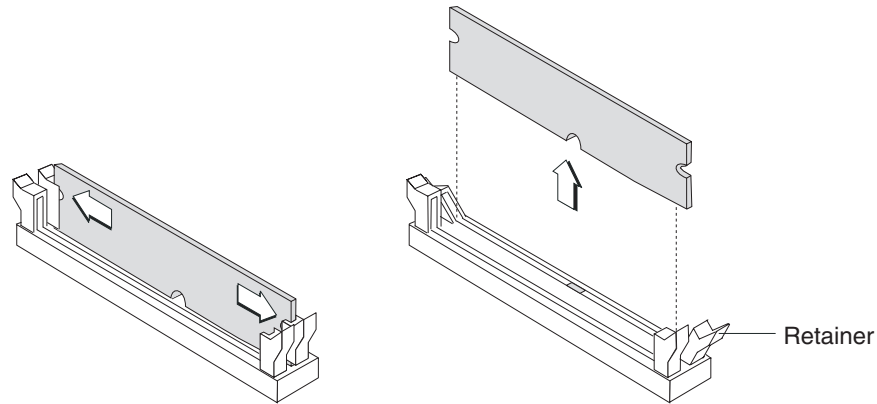

Figure 31. Memory module removal
5. Press the latches away from the module as shown in Figure 31.